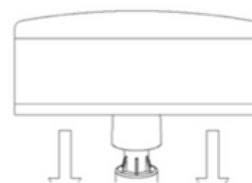

FIGURE 5
- Place the scrubbing pad over the tip of the spray nozzle and press firmly on it. (FIGURE 5).